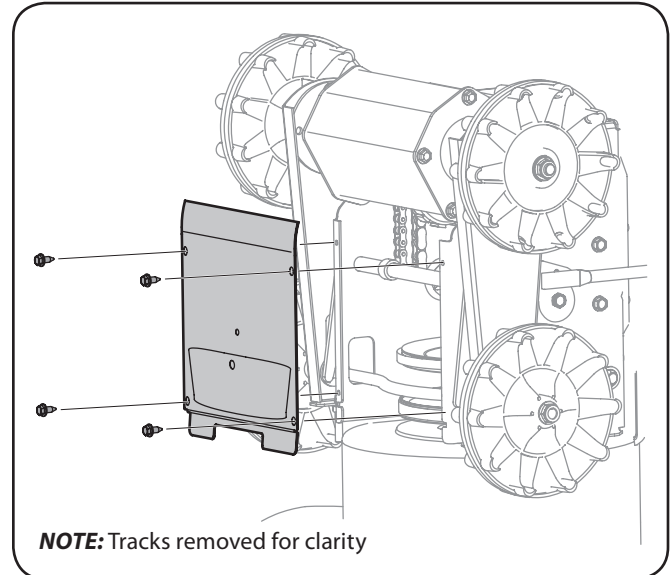

Figure 6-2
3. Remove the frame cover from the underside of the snow thrower by removing the self-tapping screws which secure it. Refer to Figure 6-2.